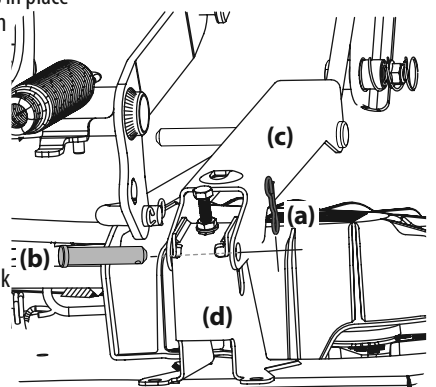

Figure 45
- Remove the two bow-tie pins (a) from the clevis pins (b) that secure the lift link brackets (c) to the rear deck lift brackets (d) on the deck. Remove the clevis pins (b). See Figure 45.